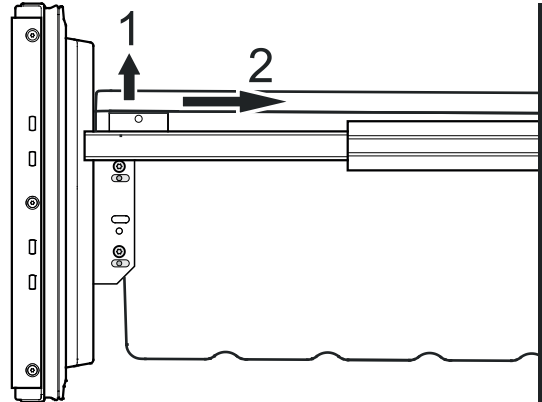
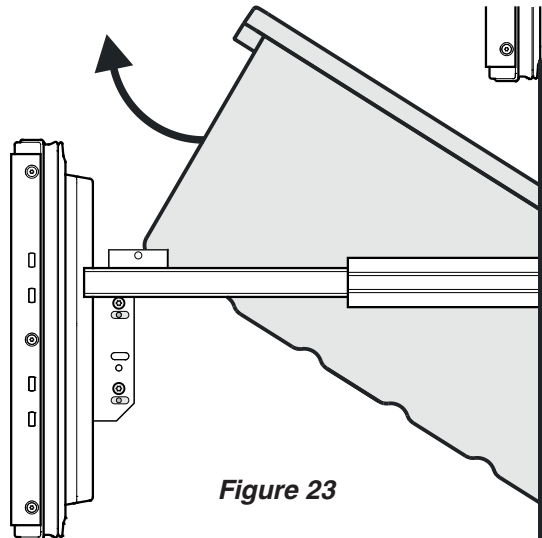

Figure 22
Figure 23
- Unlatch the container on the left and right corners by pulling upwards (1) - **Figure 22**.
- Slide the container backwards (2) - **Figure 22**.
- Tilt the container at an angle and remove - **Figure 23**.
- Remove the freezer drawer containers as shown in *Figure 22* and *Figure 23*.